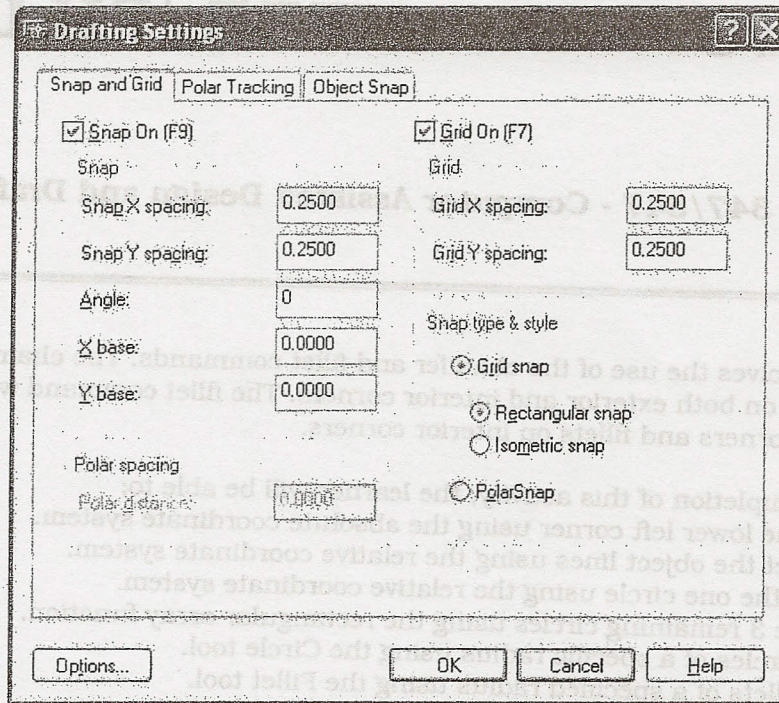

Figure 1 The Snap and Grid section of the Drafting Settings dialog box
2. Choose Tools►Drafting Settings..., click the Snap and Grid tab (Figure 1):